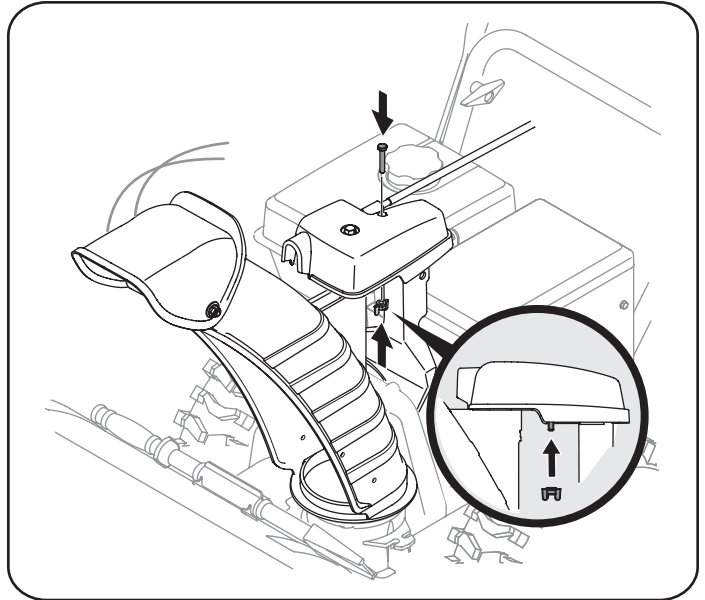

Figure 6
5. Finish securing chute control head by installing hex bolt and wing nut. See Figure 6.